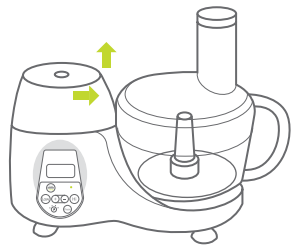

Fig. 17
1. Remove the housing cap. (Fig. 17)